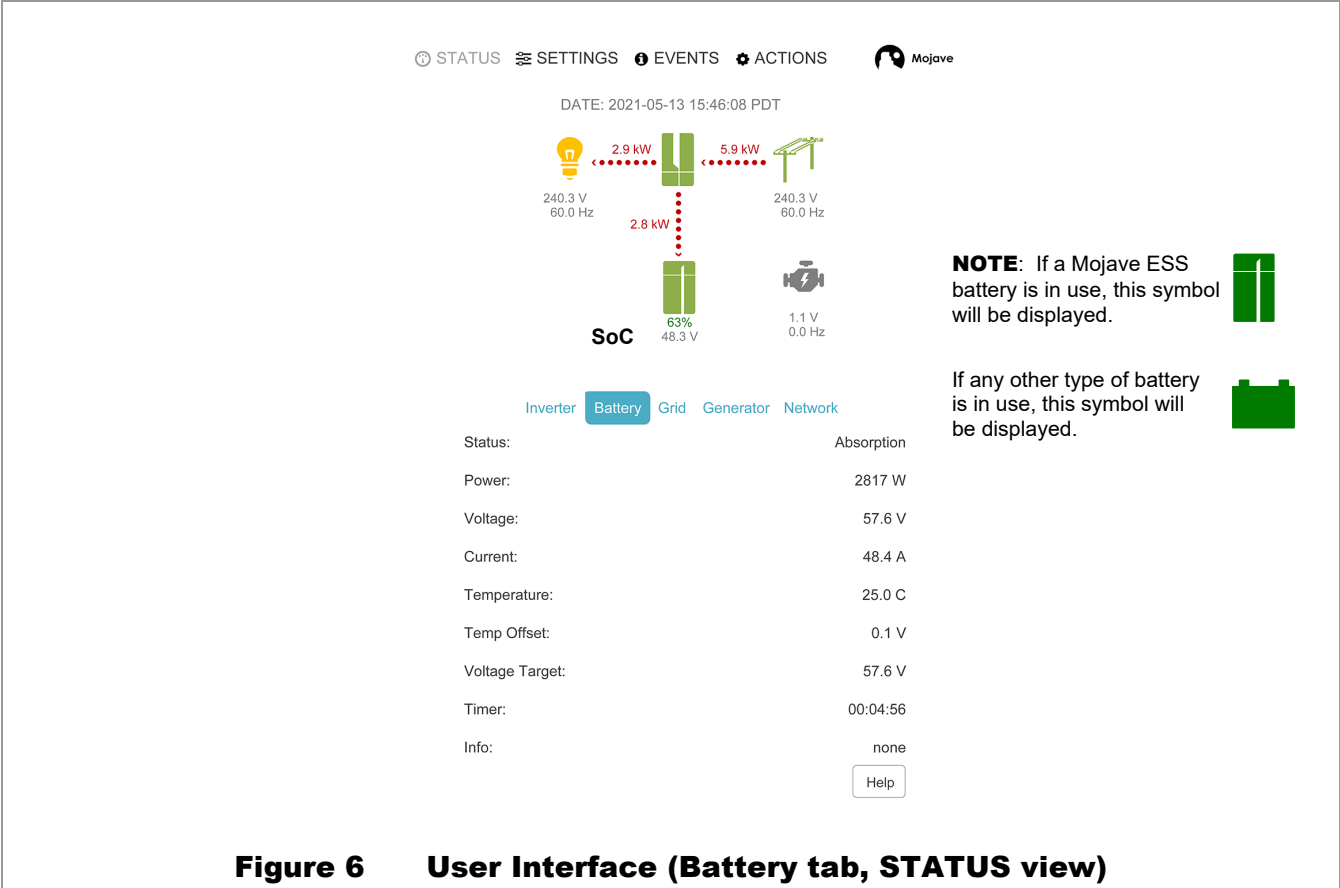

Figure 6 User Interface (Battery tab, STATUS view)
- ❖ State of charge (SoC) is not included in the data items listed below. Instead, it is shown in Figure 6.